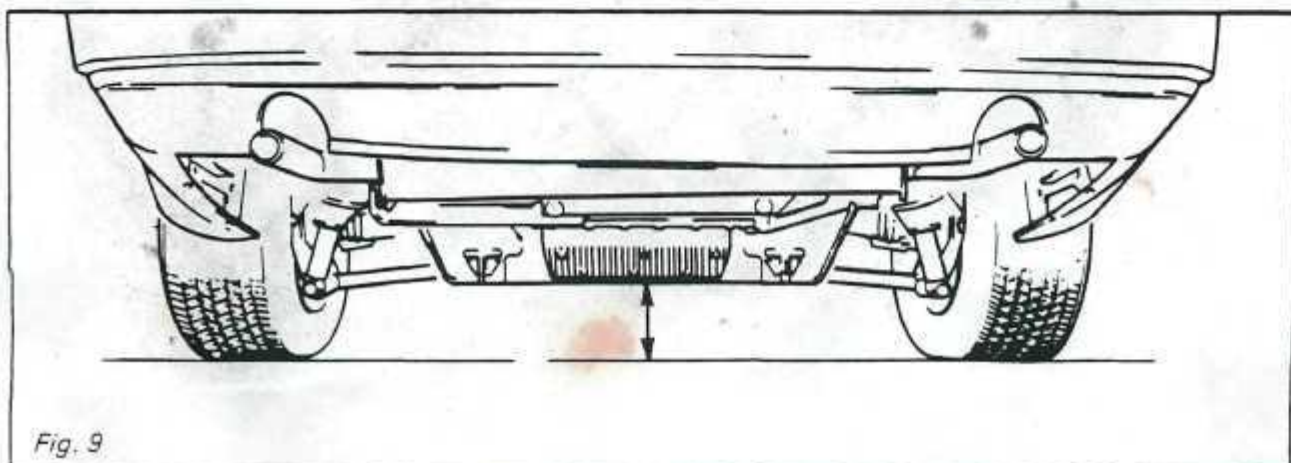

Fig. 9
5. Check and, if necessary, adjust setting height 140 mm (5.5 inches). Fig. 9. This measurement must be taken from the centre of the rear crossmember.
REMOVING THE ROLLER CLUTCH ASSEMBLY – Fig. 9